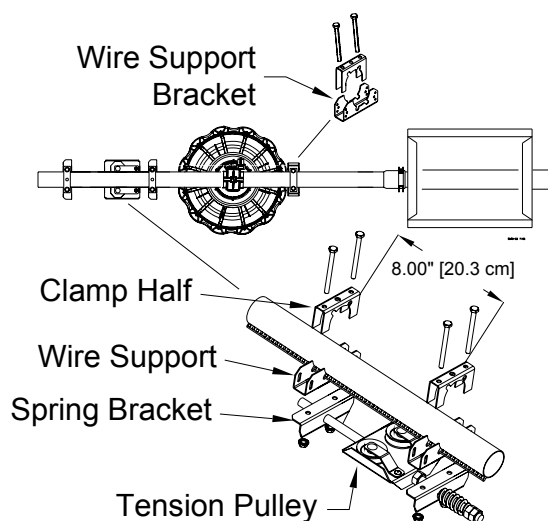

Figure 50. Tension Pulley
- Install a Tension Pulley beginning at the hopper end using a Wire Support, two 1/4-20 x 3" hex bolts and two 1/4-20 serrated nuts, as shown in **Figure 50**.
- Install a Wire Support and Spring Bracket approximately 8" [20.3 cm] from the Tension Pulley using two 1/4-20 x 3" hex bolts and two 1/4-20 serrated nuts as shown in **Figure 50**.
- At the hopper end the last pan is set up in a push configuration as shown in **Figure 50**. This configuration will use a wire support bracket installed as shown with two 1/4-20 x 3" hex bolts.